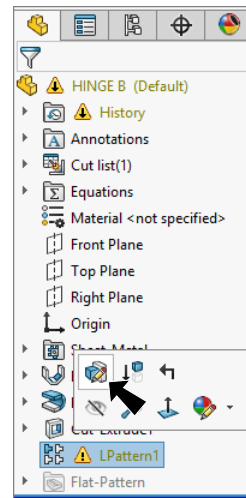

Fig. 26
Step 1. Click **LPattern1** in the Feature Manager and click **Edit Feature**  on the context toolbar, **Fig. 26**.